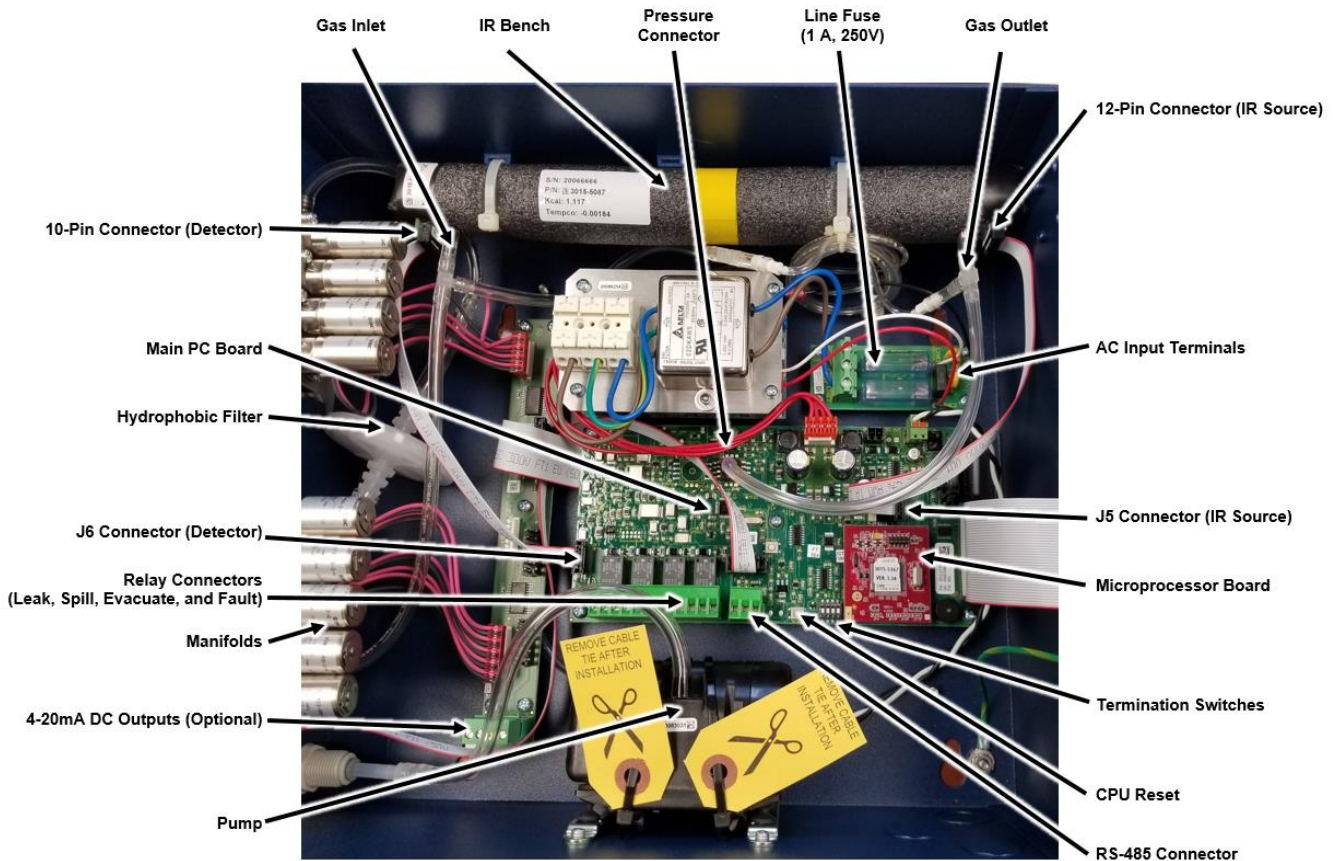

Figure 2-4. MZ Monitor Interior Components
1. Locate the RS-485 connector in the MZ (see Figure 2-4 on page 13).